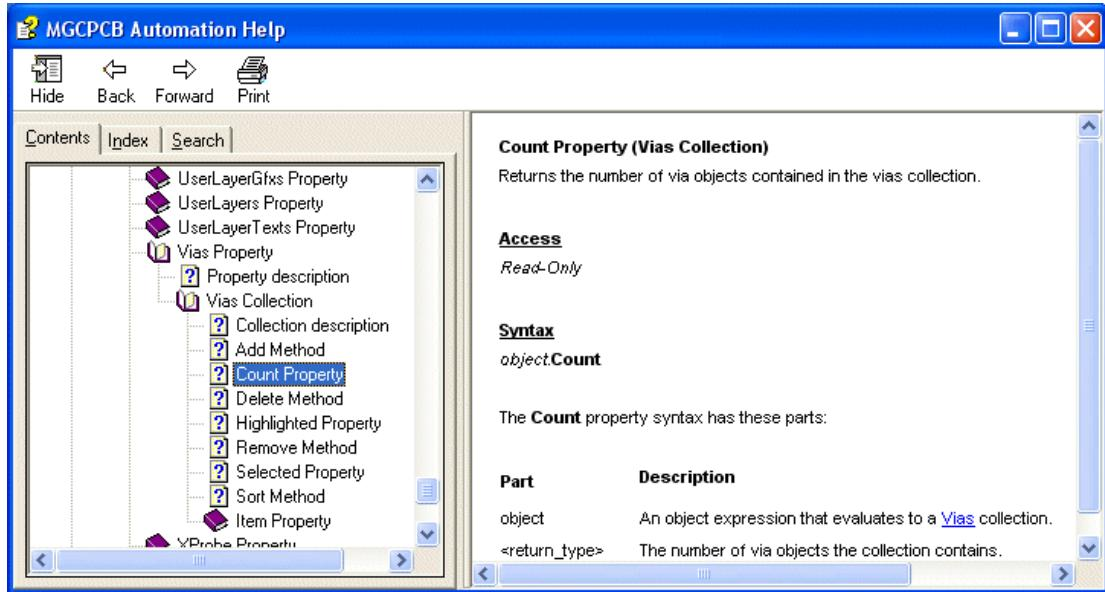

Figure 3-5. Working one's way through the hierarchy.
- 8) Click on the **Count** property and observe the description on how to use it as illustrated in Figure 3-5. By performing the above steps, you now know that the hierarchy your script will use to count the vias in the design is as follows: